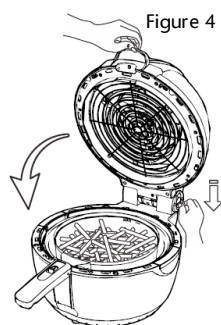

Figure 4
3. To close the Top Cover (9), hold the Lid Handle (3) with one hand and use your other hand to push down on the Lid Release Switch (2). Slowly lower the Top Cover (9) down until it fully closes. (See Figure 4)